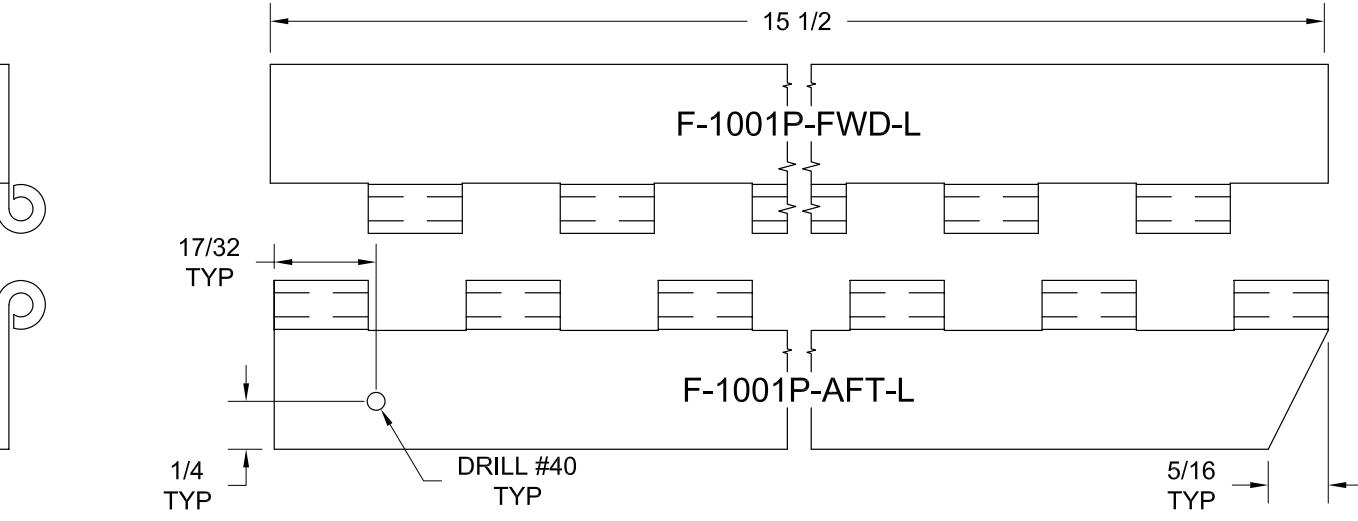

FIGURE 3:
Step 3: Fabricate F-1001P Cowl Attach Hinges from HINGE PIANO 1/8 as shown in Figure 3.
Drill a #40 hole in the F-1001P-AFT-L & R Cowl Attach Hinges as shown in Figure 3.